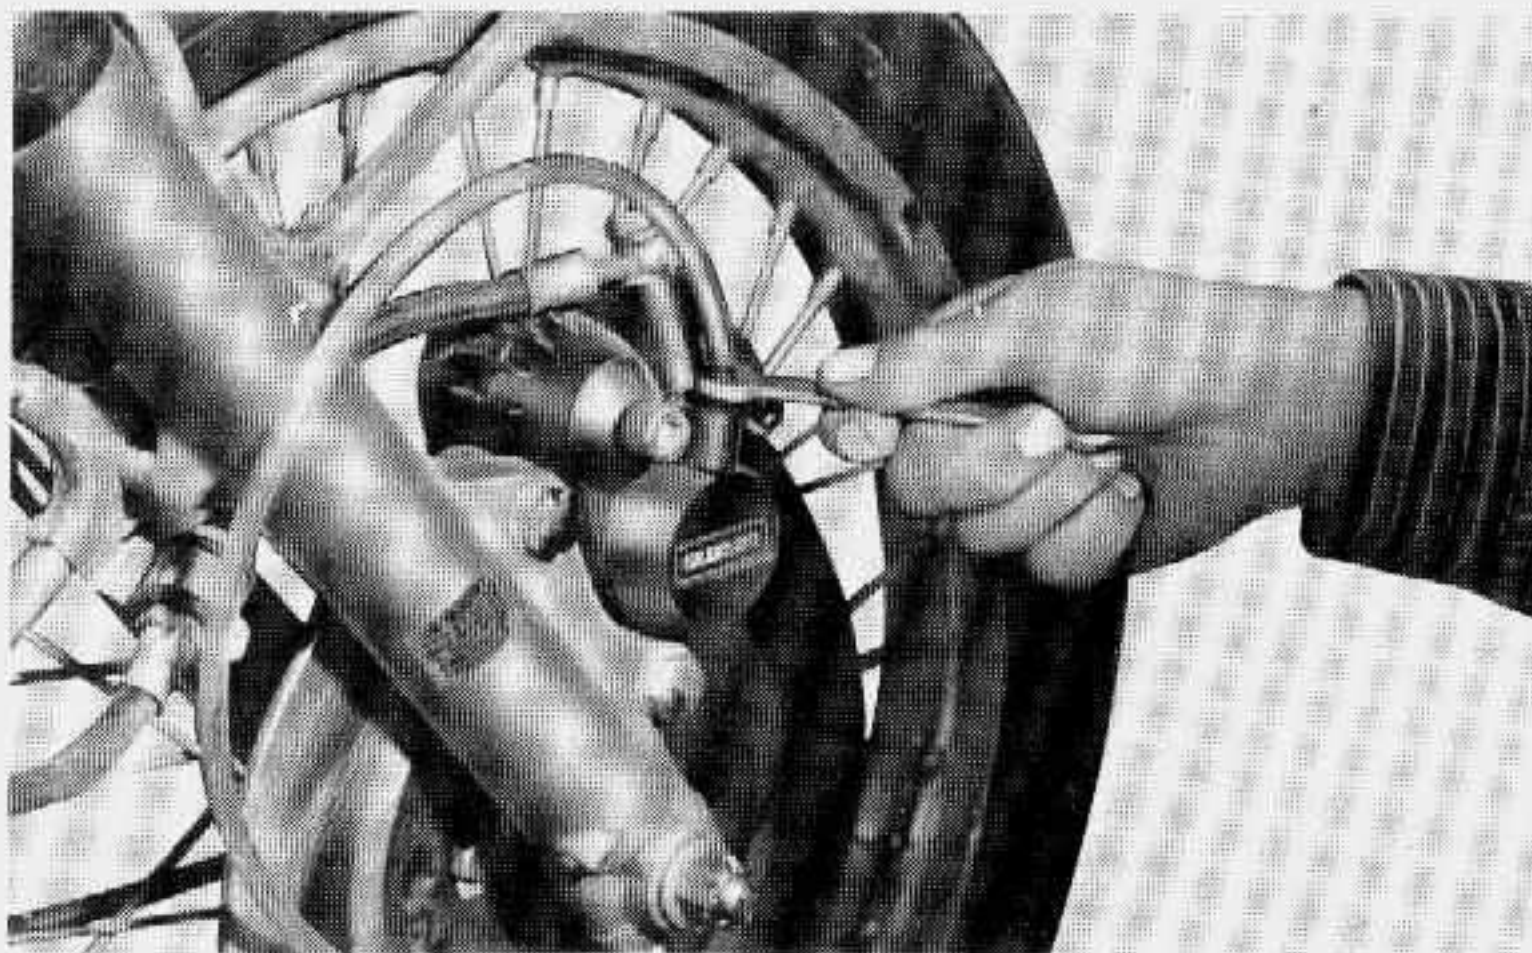

Fig. 8-2-3
- a) Attach the bleeder tube to the bleeder valve after removing the bleeder valve dust cap as shown in Fig. 8-2-3. A transparent tube is useful in finding air bubble expelled from the system.